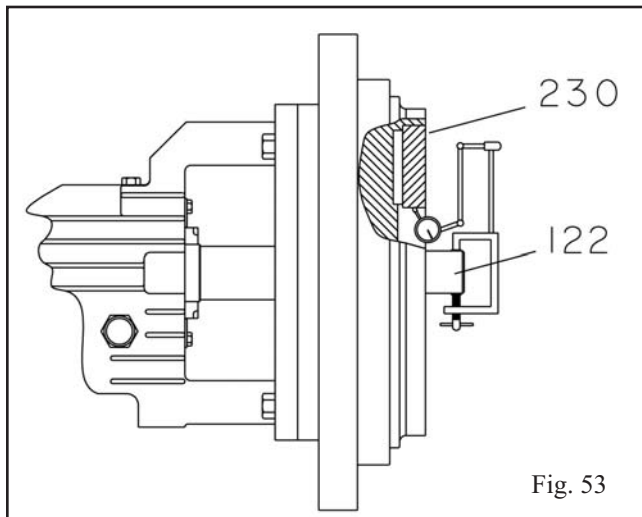

Fig. 53
8. Check seal chamber cover wear ring (230) runout in the following manner:
- a. Mount dial indicator on shaft (122) as shown in Fig. 53.
- b. Rotate shaft (122) so indicator rides on seal chamber cover wear ring (230) surface for 360 degrees. If total indicator reading exceeds 0.15 mm (.006 in.), determine cause and correct.